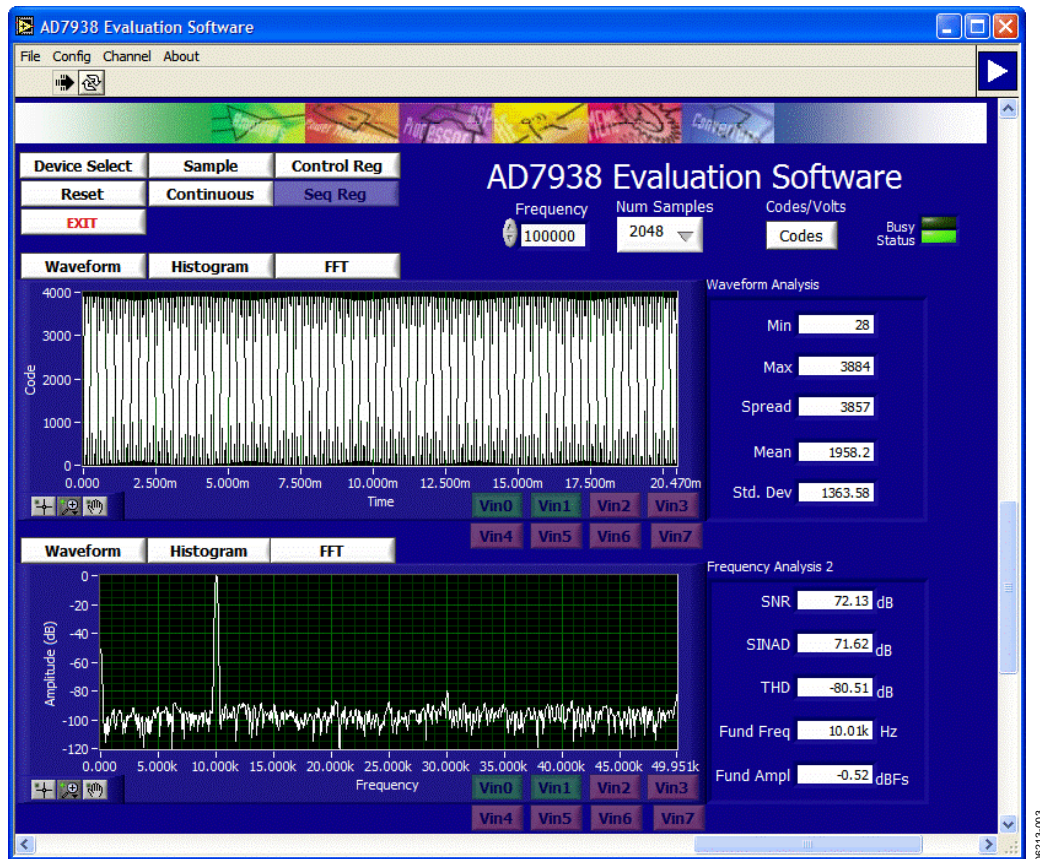

Figure 3. Main Screen
The Main Screen, shown in Figure 3, allows you to read a pre-determined number of samples from the evaluation board and display them in both the time and frequency domain. This screen can be divided into three sections.
1. Click on the **Device Select** control button on the Main Screen (see Figure 3) to display the Load Configuration
To instruct the EVAL-CONTROL BRD2 to take the required number of samples at the required frequency, follow these steps using the Main Screen shown in Figure 3: